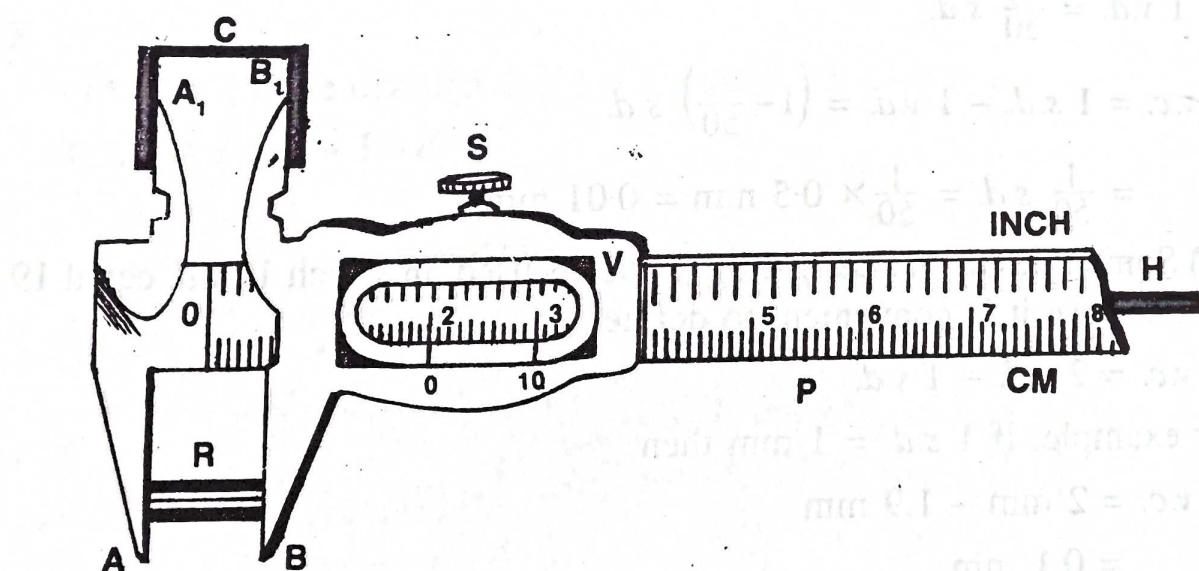

Fig. 2.2-1 : Slide callipers
- **Construction :** Slide callipers consists of a steel plate (P) at one edge of which a centimetre scale (cm) is marked while at its other edge an inch scale is marked [Fig. 2.2-1]. At right angles to the steel plate (P) there are two jaws (AA_1 and BB_1), one of which (AA_1) is fixed at one end of the plate while the other jaw (BB_1) is provided with a vernier scale (V) and can slide over the main scale on the plate (P). When the two jaws touch each other the gap between them becomes zero and the zero-line of the vernier usually coincides with that of the scale. If it does not happen so, then there is a zero error in the instrument and this should be determined for correct result. Sometimes a narrow thin steel strip (H) is attached parallel to the plate P , which can move with the movable jaw BB_1 . This is useful for depth measurement.
The movable jaw (BB_1) is drawn outward to create a gap between the two jaws. If we are to measure the length of a small rod R (as shown in Fig. 2.2-1) or the diameter of a bob, it should be put between the jaws A and B . If we are to measure the internal diameter of a hollow cylinder C (as shown in Fig. 2.2-1) the jaws A_1 and B_1 are to be put into the hollow of the cylinder. The position of the sliding jaw BB_1 is then adjusted till the jaw B touches one end of the object R or the jaw B_1 touches the inner surface of the hollow cylinder C . Now let the value of integral number of main scale divisions, remaining just on the left side of the zero-line of vernier be S cm. If a certain number